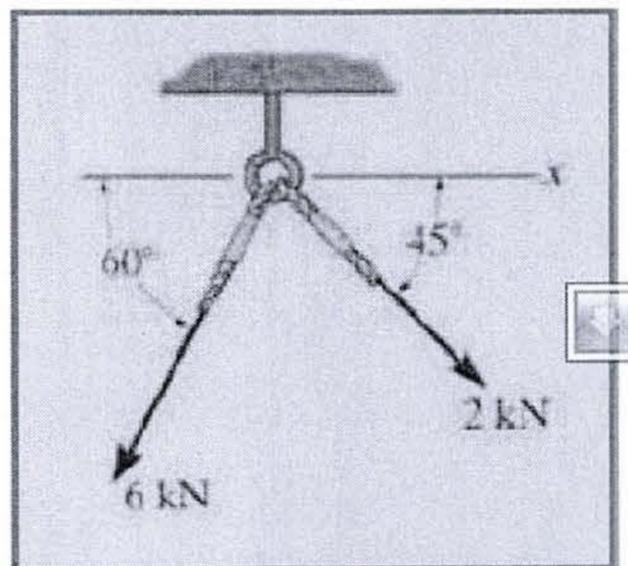

Figure Q2b Force systems
- (c) Determine the resultant force of the two forces acting on the pin in Figure Q2b using: [6]